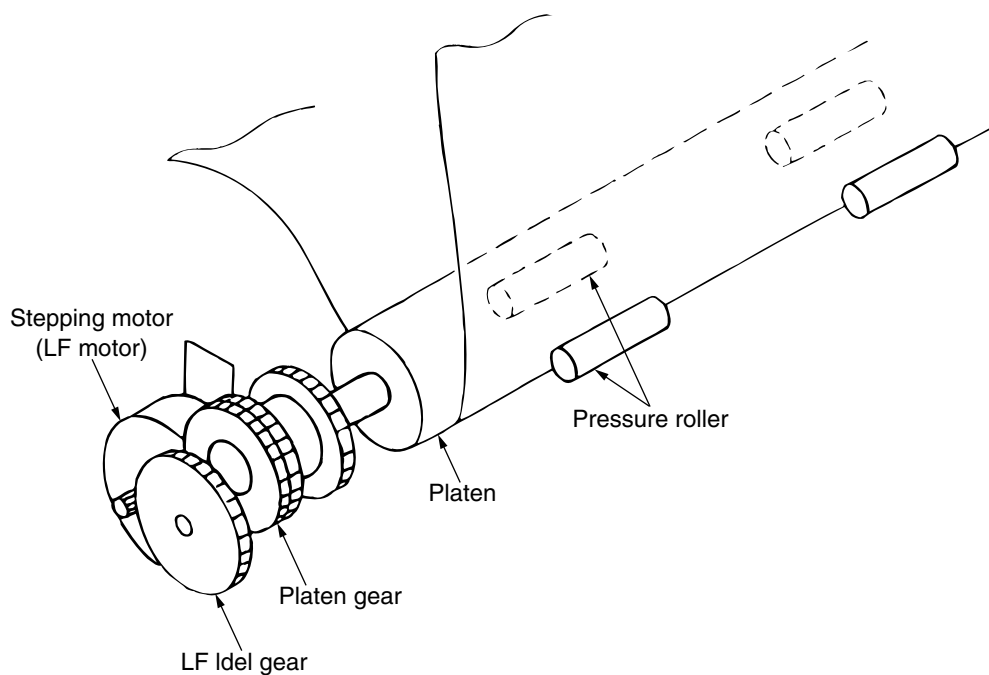

Figure 2-8
(2) Cut-sheet feeder operation (See Figure 2-8.)